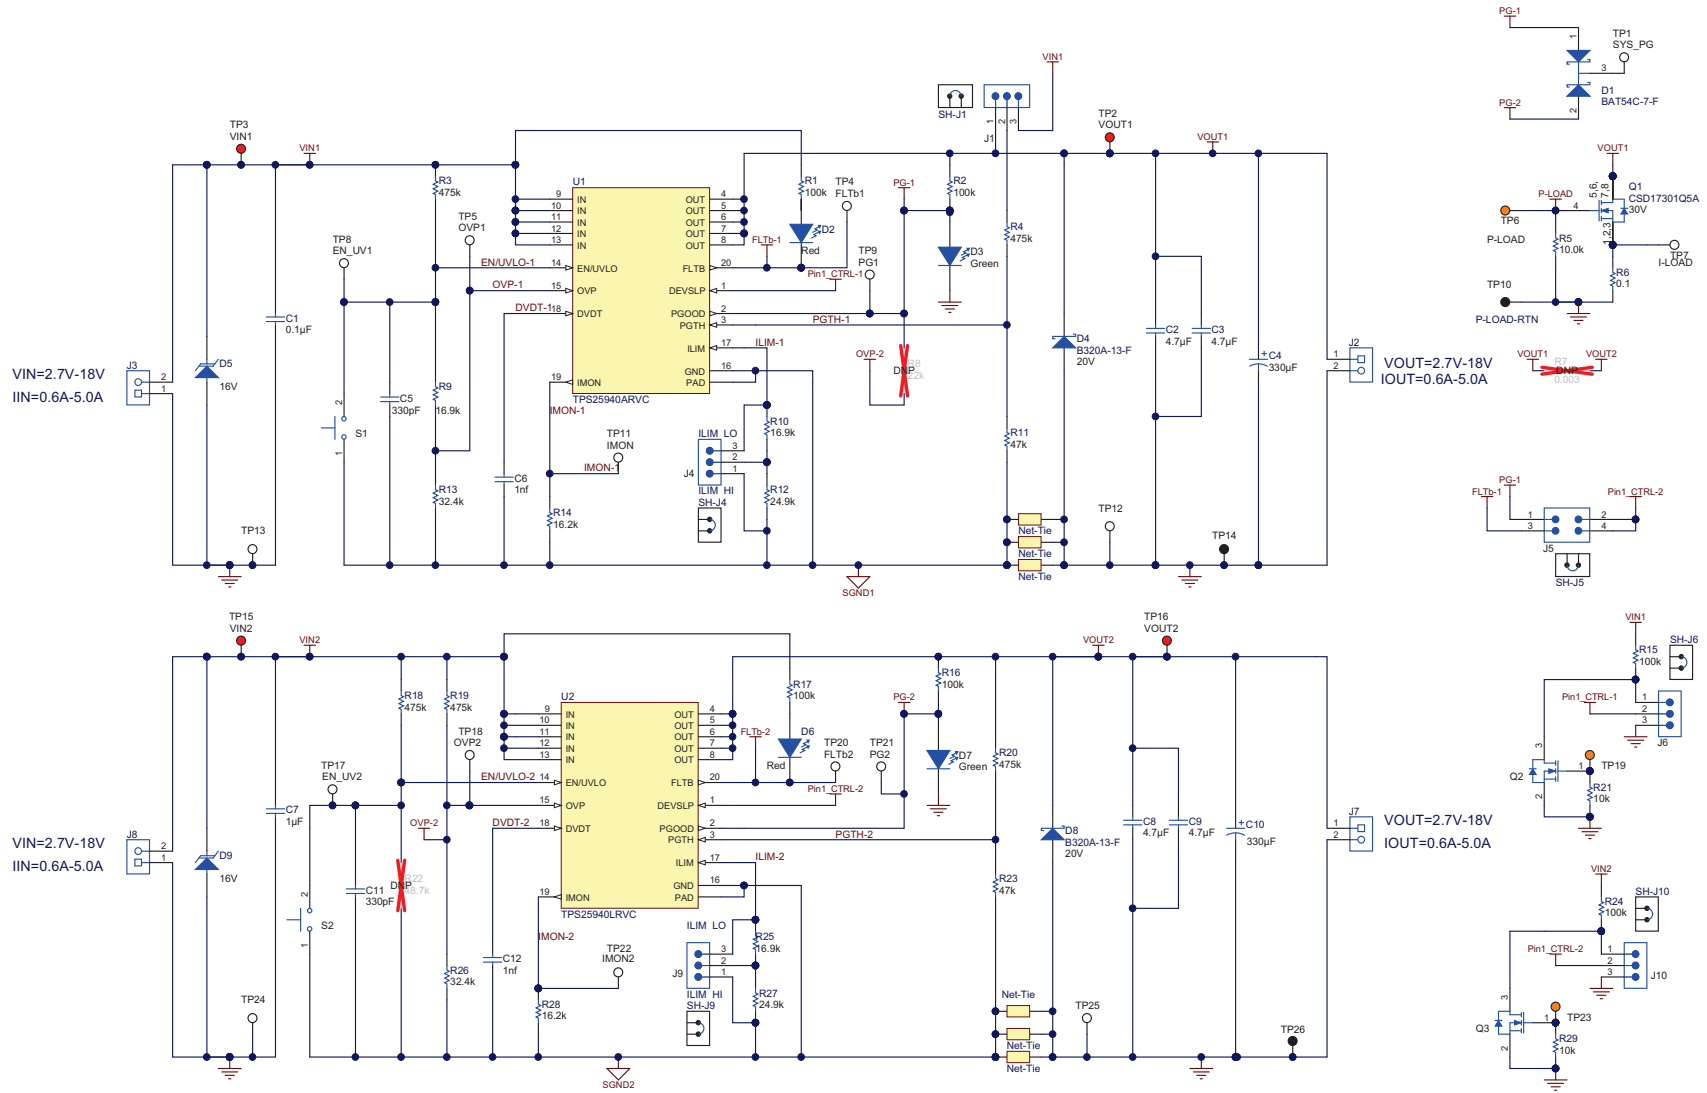
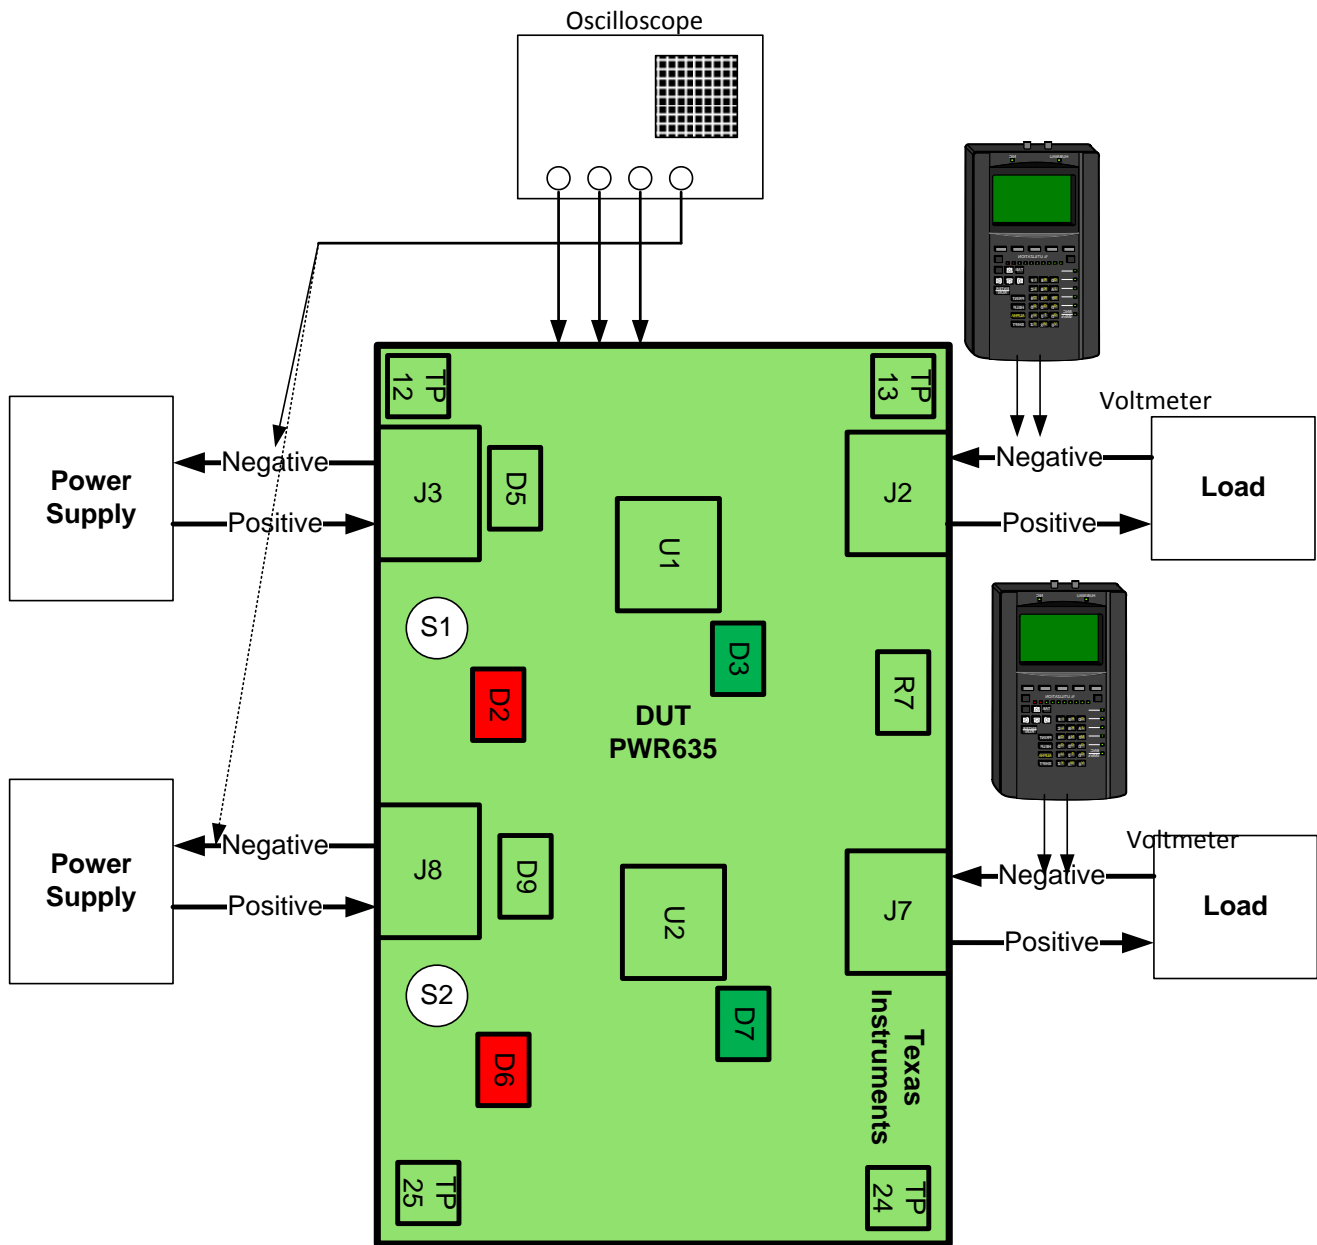

Figure 1. TPS25940EVM Schematic
Figure 2. EVM Test Setup
The TPS25940EVM-635 enables full evaluation of the TPS25940X devices. The EVM supports two versions (Auto-retry and Latched) of the devices on two Channels (CH1 and CH2, respectively). Input power is applied at J3 (CH1) and J8 (CH2), while J2 (CH1)/J7 (CH2) provide the output connection to the load, refer to the schematic in Figure 1, and test setup in Figure 2.
Figure 1 shows the EVM schematic.
Figure 2 shows a typical test setup for the TPS25940XEV. Connect J3/J8 to the power supply and J2/J7 to the load.
3. Turn off the power supply. Hook up CH1 and CH2 of the PWR635 assembly as shown in Figure 2.